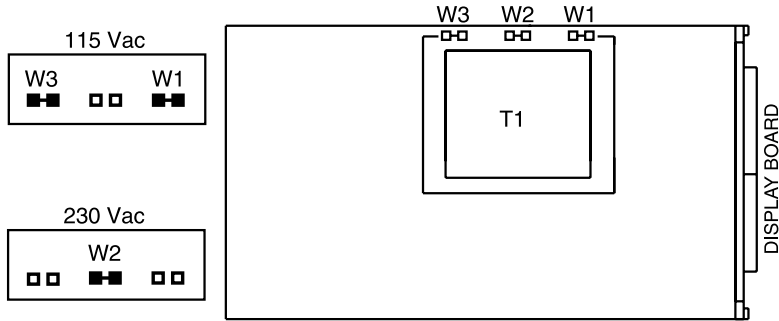

Figure 6-1. Main Board Power Jumpers (W1, W2, W3)
6.4 MAIN BOARD JUMPERS (refer to Figure 6-1)
Figure 6-1 shows the W1 through W3 jumpers on the main board.